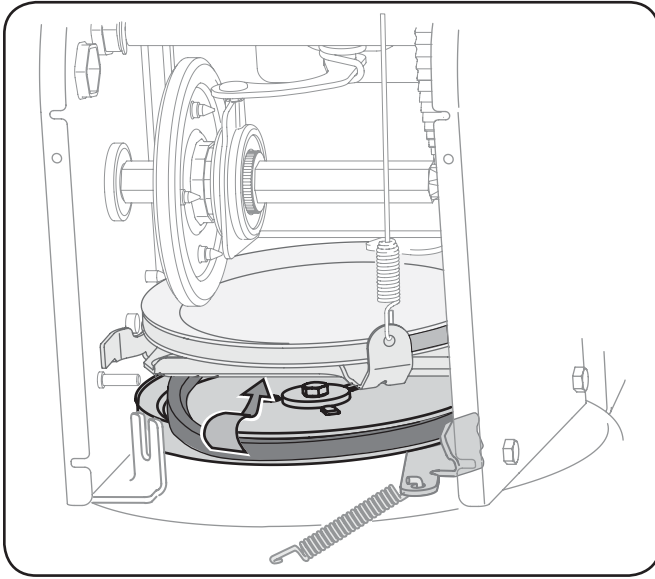

Figure 8-5
7. Remove the belt from around the auger pulley, and slip the belt between the support bracket and the auger pulley. See Fig. 8-5.